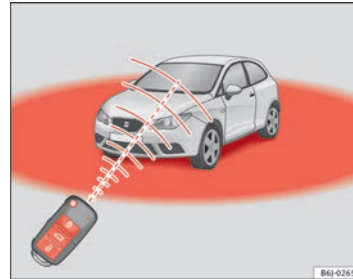

Fig. 46 Range of the radio frequency remote control
Also, the battery indicator on the key \Rightarrow Fig. 46, will flash.
- The radio frequency remote control key functions only when you are within range → Fig. 46.